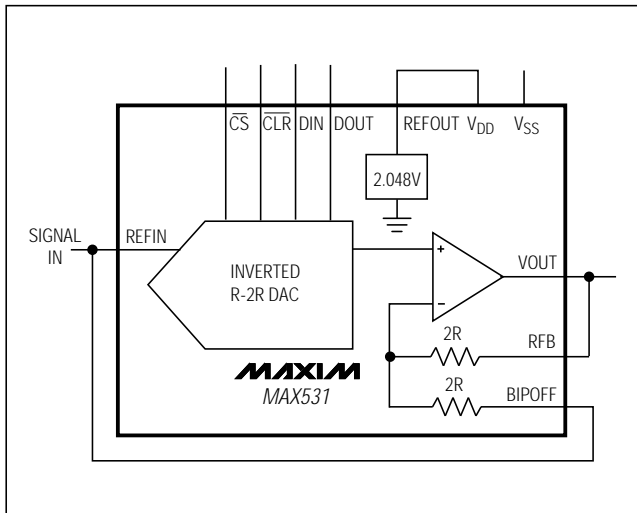

Figure 9. MAX531 Connected as Four-Quadrant Multiplier. The unused REFOUT is connected to VDD.
The MAX531 can be used as a four-quadrant multiplier by connecting BIPOFF to REFOUT and RFB to VOUT, using (1) an offset binary digital code, (2) bipolar power supplies, using dual power supplies, and (3) a bipolar analog input at REFOUT within the range $V_{SS} + 2\text{V}$ to $V_{DD} - 2\text{V}$, as shown in Figure 9.